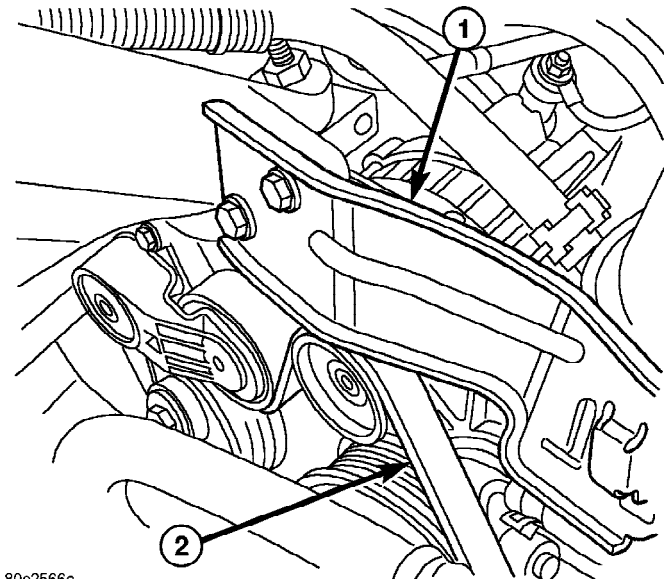

Fig. 7 ACCESSORY DRIVE BELT
- (1) Disconnect battery negative cable.
(2) Remove the powersteering reservoir bracket (Fig. 7) and reposition the reservoir (Fig. 8).